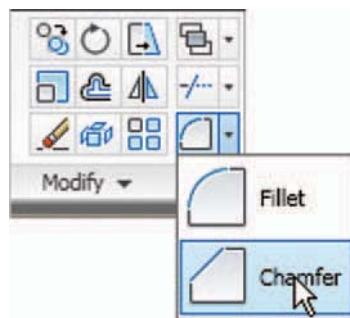

Fig. 5.43 Select **Chamfer** from the **Home/Modify** panel
2. Call Chamfer – *click* the arrow to the right of the tool icon in the **Home/Modify** panel and select **Chamfer** from the menu which appears (Fig. 5.43), *click* on its tool icon in the **Modify** toolbar, *pick* **Chamfer** from the **Modify** drop-down menu, or *enter cha* or **chamfer** at the command line which then shows: